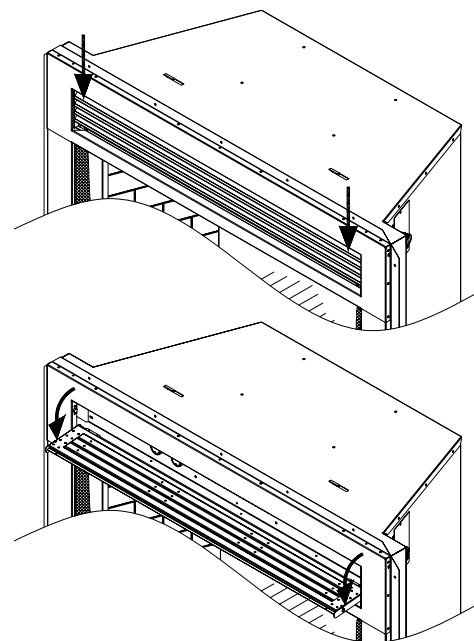
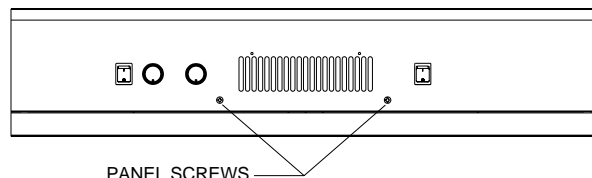

Figure 11 - Accessing Controls
Figure 19 - Locating Front Panel Screws
The controls can be accessed by pulling on the top outer edges of the uppermost louver until the panel releases from the magnetic catches on each side and swings down to the open position. See **Figure 11**.
1. Open the upper control door (see **Figure 11**, on page 6) and remove the 2 Phillips screws below heater grill. See **Figure 19**.